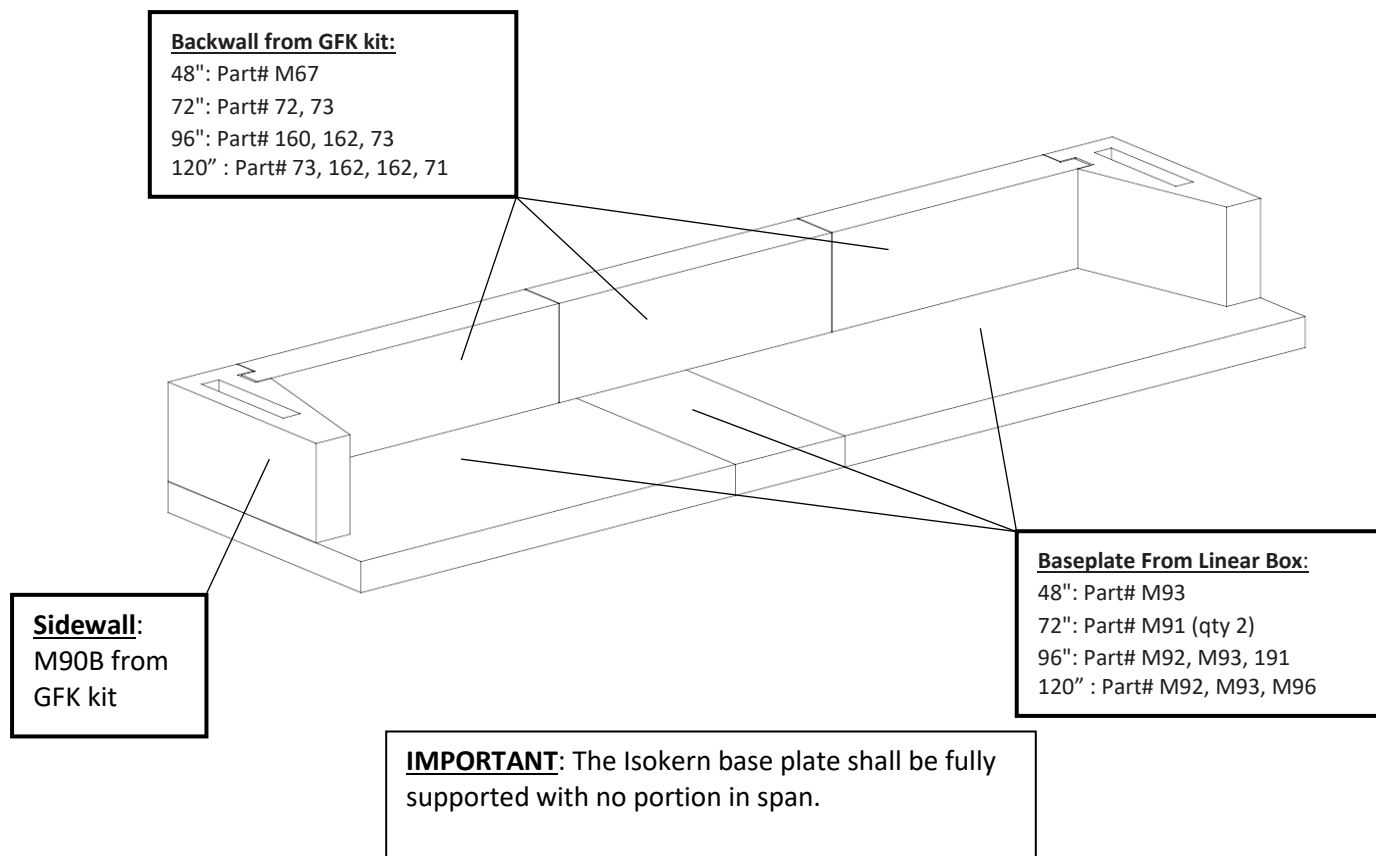

FIGURE 10
1) Apply Earthcore Adhesive to the joints between each baseplate part and ensure to set each base plate in a full bed of Earthcore Adhesive on a level support surface (**Figure 10**). See page 19 for information regarding the supporting floor system. Do not set the base plate so that it is in span. Refer to pages 6 - 17 for firebox and part dimensions.
2) Set the first course of the firebox side walls and back walls into place (**Figure 10**).